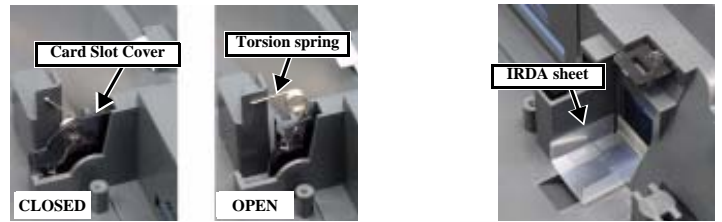

Figure 4-14. Checking the Middle Housing
1. Check the Middle Housing for the following conditions. (Fig. 4-14)